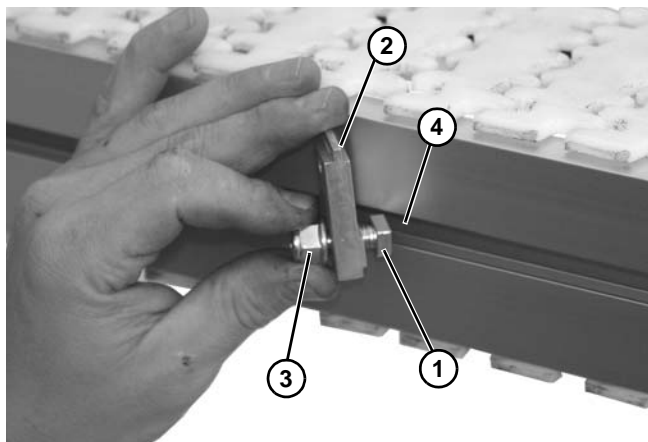

Figure 65
1. Install stud (Figure 65, item 1) onto retaining clip (Figure 65, item 2) with nut (Figure 65, item 3).
2. Install stud (Figure 65, item 1) into side rail channel (Figure 65, item 4). The end clips should be no greater than 12" from end of the conveyor.